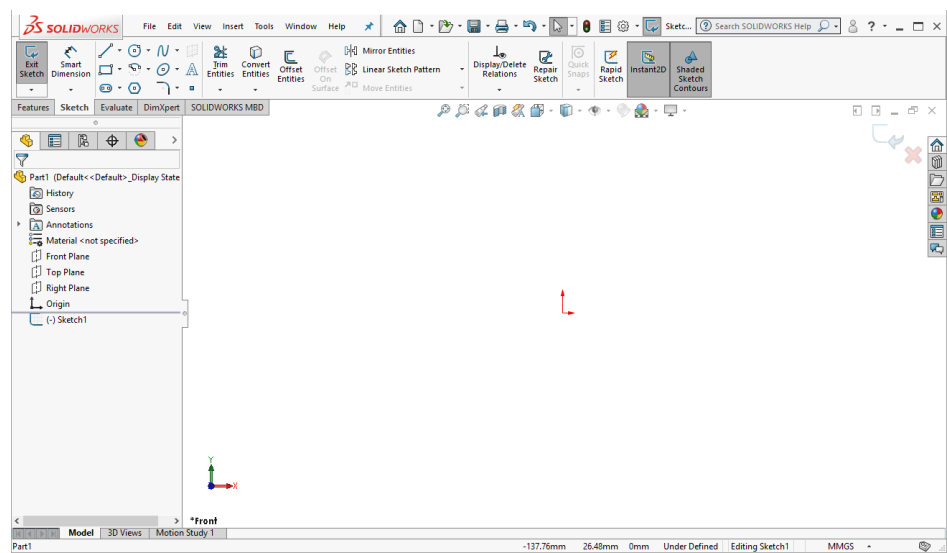

Figure 2-60 Screen display in the sketching environment
- 5. Select the **Front Plane** from the drawing area; the sketching environment is invoked and the plane gets oriented normal to the view. You will notice that red colored arrows are displayed at the center of the screen indicating that you are in the sketching environment. Also, the confirmation corner with the **Exit Sketch** and **Cancel** options is displayed on the upper right corner in the graphics area. The screen display in the sketching environment of SOLIDWORKS 2019 is shown in Figure 2-60.